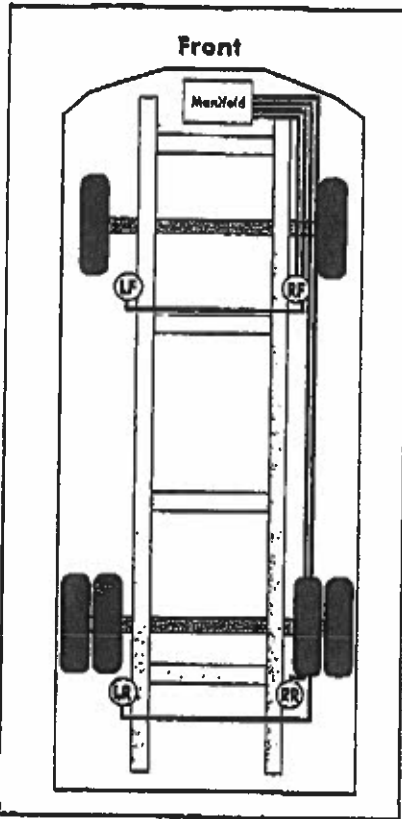

Figure 1c
1. Check hose routings and attachments at cylinders and manifold. (Fig. 1c)